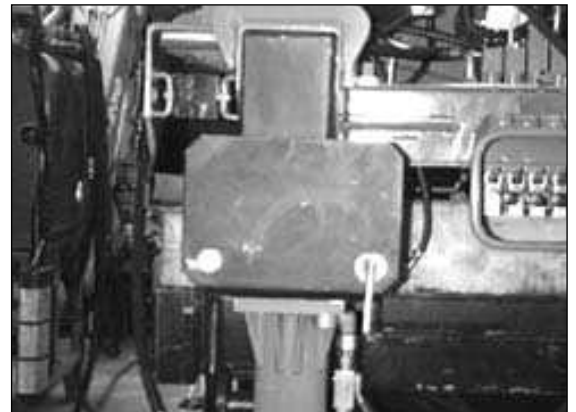

fig. 24a
- Rotate the outrigger ram in a down direction, re-insert the locking pin in the new seat (fig. 24a) and lock it with the security pin.